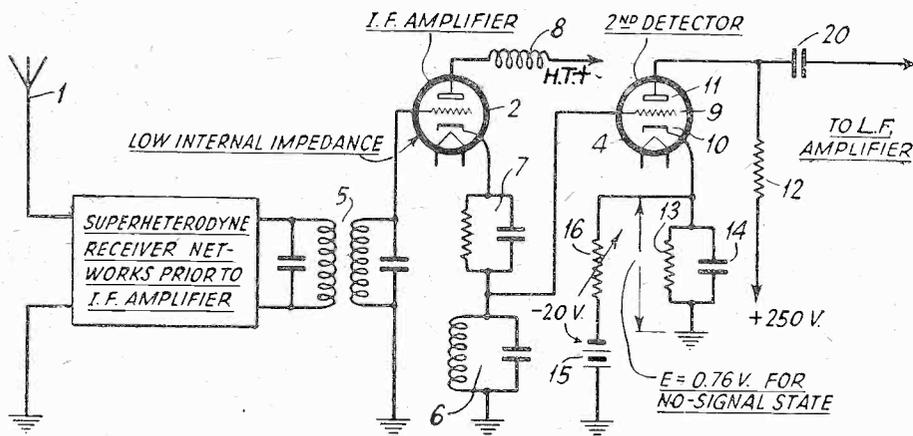

Fig. 1.—Detector stage, showing the cathode circuit improvement.
**A**LTHOUGH linear detectors, such as the diode type and the triode type with cathode feedback, are now well known, these detectors both suffer from lack of amplification, and other detectors giving comparable fidelity with some degree of amplification are of interest. A modified form of anode bend detector with some interesting properties will now be described. Referring to Fig. 1, the secondary winding of the I.F. transformer 5 of a superheterodyne receiver feeds the signals to the valve 2 which in turn feeds the detector valve 4. In order to provide the amplifier stage with a low internal impedance, the circuit 6 is disposed in the
section, and the biasing network connected in the cathode circuit is the same as in the case of Fig. 1. The audio voltage is taken off from the negative end of load resistor 12. Normally the positive target 34 receives electrons from the cathode 36. These electrons cause the fluorescent coating on the inner face of the target to glow, and the target has the appearance of a ring of light. When the potential of electrode 35 is less positive than the target, electrons flowing to the target are repelled by the electrostatic field of the control electrode, and, therefore, the electrons do not reach that portion of the target directly behind electrode 35. The control electrode 35 is said to cause shadow on the glowing target. Since the potential of electrode 35 varies in response to the potential drop across load resistor 12, it will be clear that the shadow on target 34 is of variable width. Therefore, it will be seen that the electron indicator is able to indicate the signal carrier amplitude by virtue of the direct current voltage drop in the detector plate circuit. H.T. supply may be 250 volts, and the load resistor 12 can be 500 ohms.